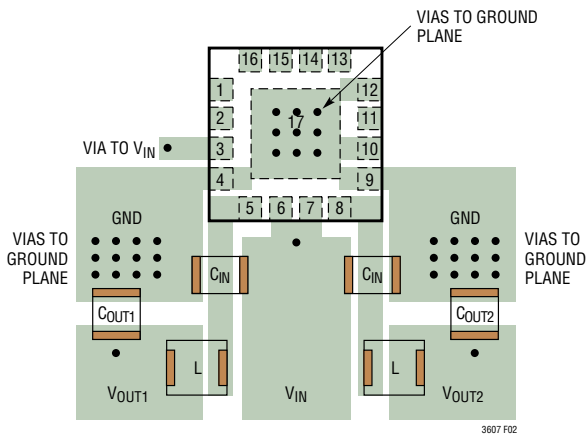

Figure 2. Example of Power Component Layout for QFN Package
When laying out the printed circuit board, the following checklist should be used to ensure proper operation of the LTC3607. These items are also illustrated graphically in the layout diagram of Figure 2. Check the following in your layout:
- Flood all unused areas on all layers with copper. Flooding with copper will reduce the temperature rise of power components. These copper areas should be connected to VIN or GND. Refer to Figures 2 and 3 for board layout examples.